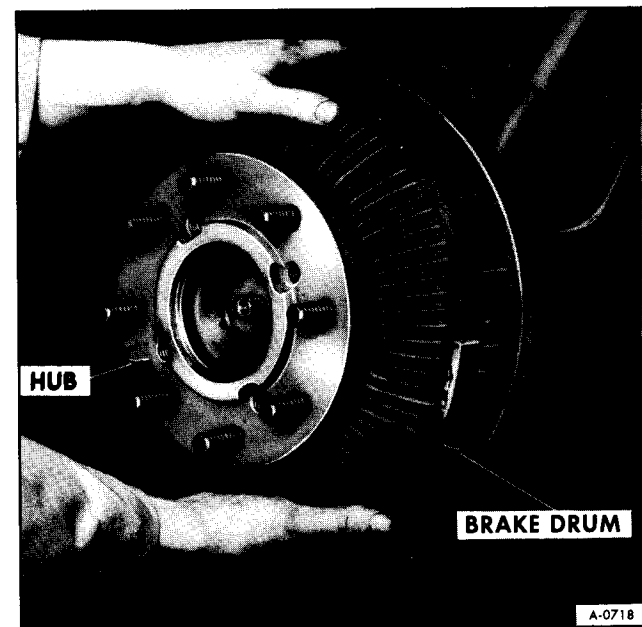

Figure 18—Removing Hub and Drum
C. Remove drum, hub, and bearings as a unit (figure 18).